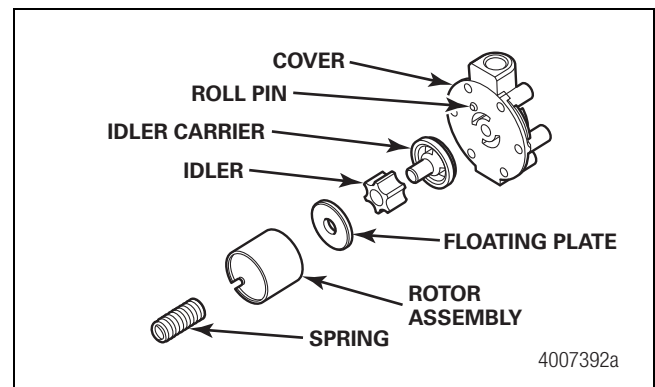

Figure 6.40
1. Install the floating plate, idler and idler carrier into the rotor body. Figure 6.40.